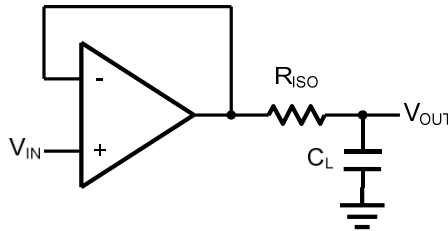
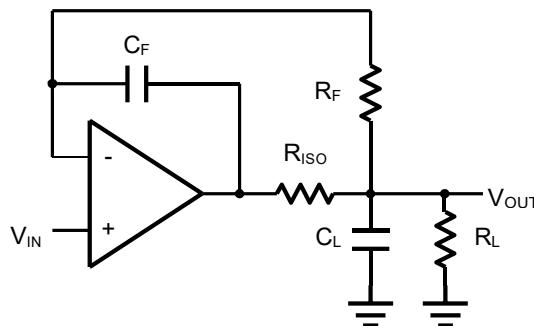

Figure 2. Indirectly Driving a Capacitive Load Using Isolation Resistor
Figure 3. Indirectly Driving a Capacitive Load with DC Accuracy
The HGV833x family is optimized for bandwidth and speed, not for driving capacitive loads. Output capacitance will create a pole in the amplifier's feedback path, leading to excessive peaking and potential oscillation. If dealing with load capacitance is a requirement of the application, the two strategies to consider are (1) using a small resistor in series with the amplifier's output and the load capacitance and (2) reducing the bandwidth of the amplifier's feedback loop by increasing the overall noise gain. Figure 2. shows a unity gain follower using the series resistor strategy. The resistor isolates the output from the capacitance and, more importantly, creates a zero in the feedback path that compensates for the pole created by the output capacitance.
The circuit in Figure 3 is an improvement to the one in Figure 2. R_F provides the DC accuracy by feed-forward the V_{IN} to R_L. C_F and R_{ISO} serve to counteract the loss of phase margin by feeding the high frequency component of the output signal back to the amplifier's inverting input, thereby preserving the phase margin in the overall feedback loop. Capacitive drive can be increased by increasing the value of C_F. This in turn will slow down the pulse response.